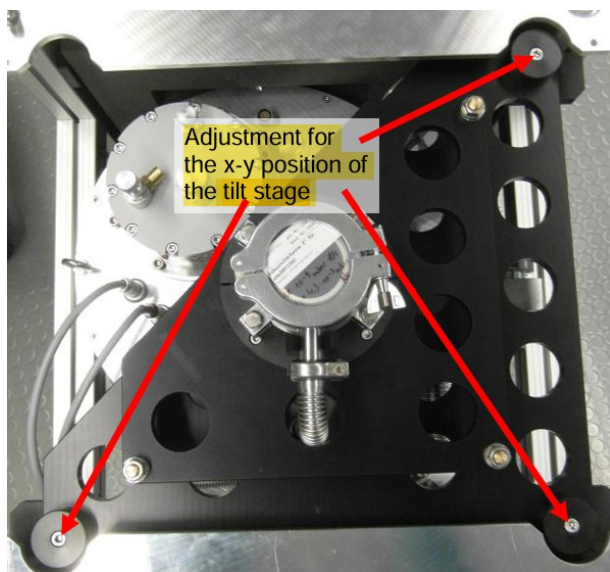

Figure 1: Top view of the attoDRY1100 with the adjustment possibility of the x-y tilt plate.
3. Slightly loosen the screws of the x-y tilt plate (Figure 1).